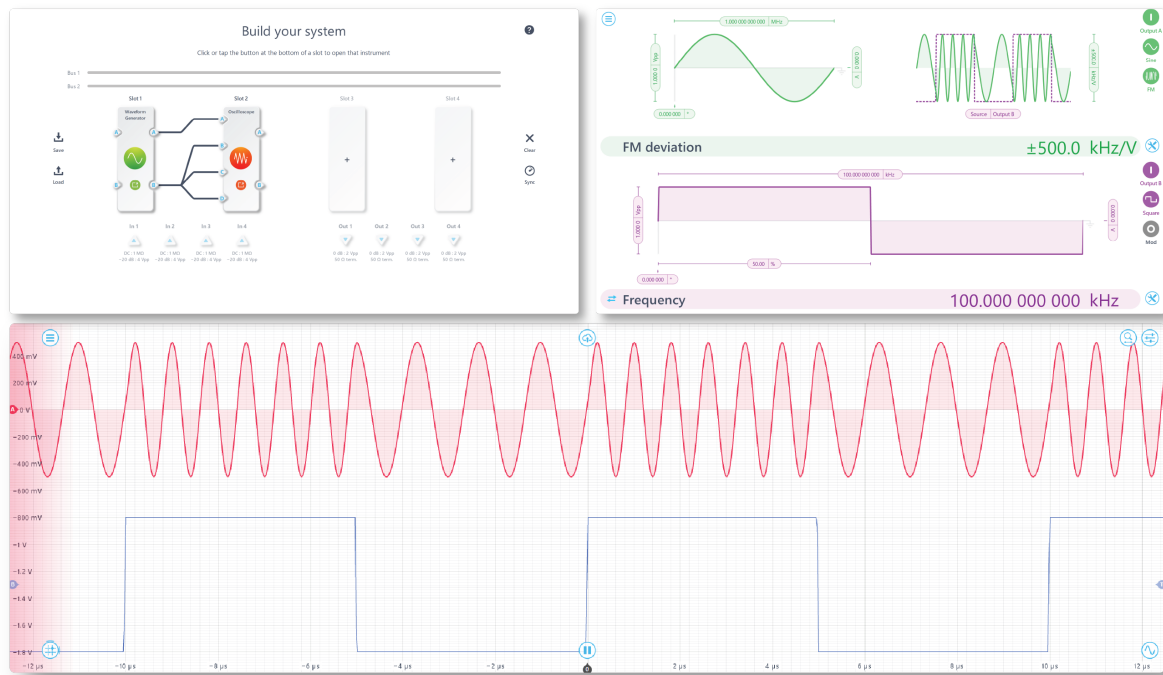

Figure 3. Multi-instrument Mode self-test setup for previewing the waveforms output from the Waveform Generator
- Route the signals in Multi-instrument Mode to an Oscilloscope to observe the waveform behavior, as seen in Figure 3.